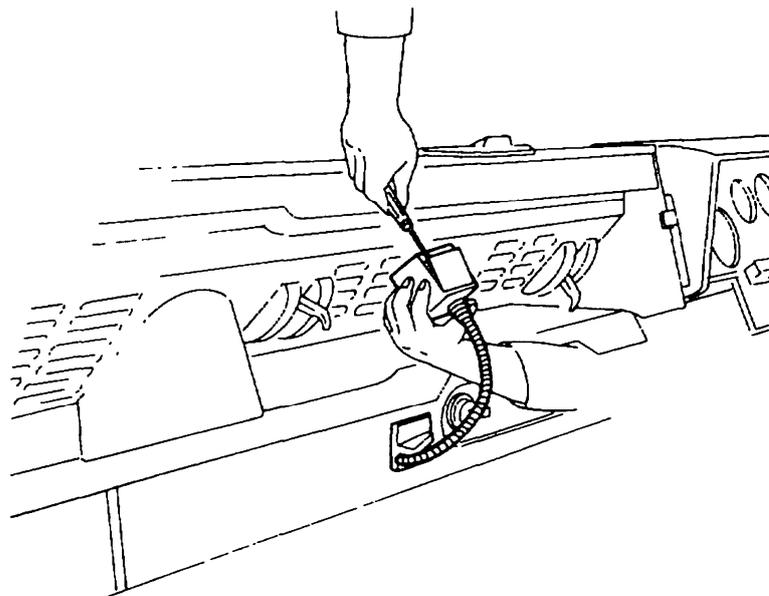

Figure 190 Map Reading Light Lens Removal
- Carefully pry the lens away from the body (Figure 190).